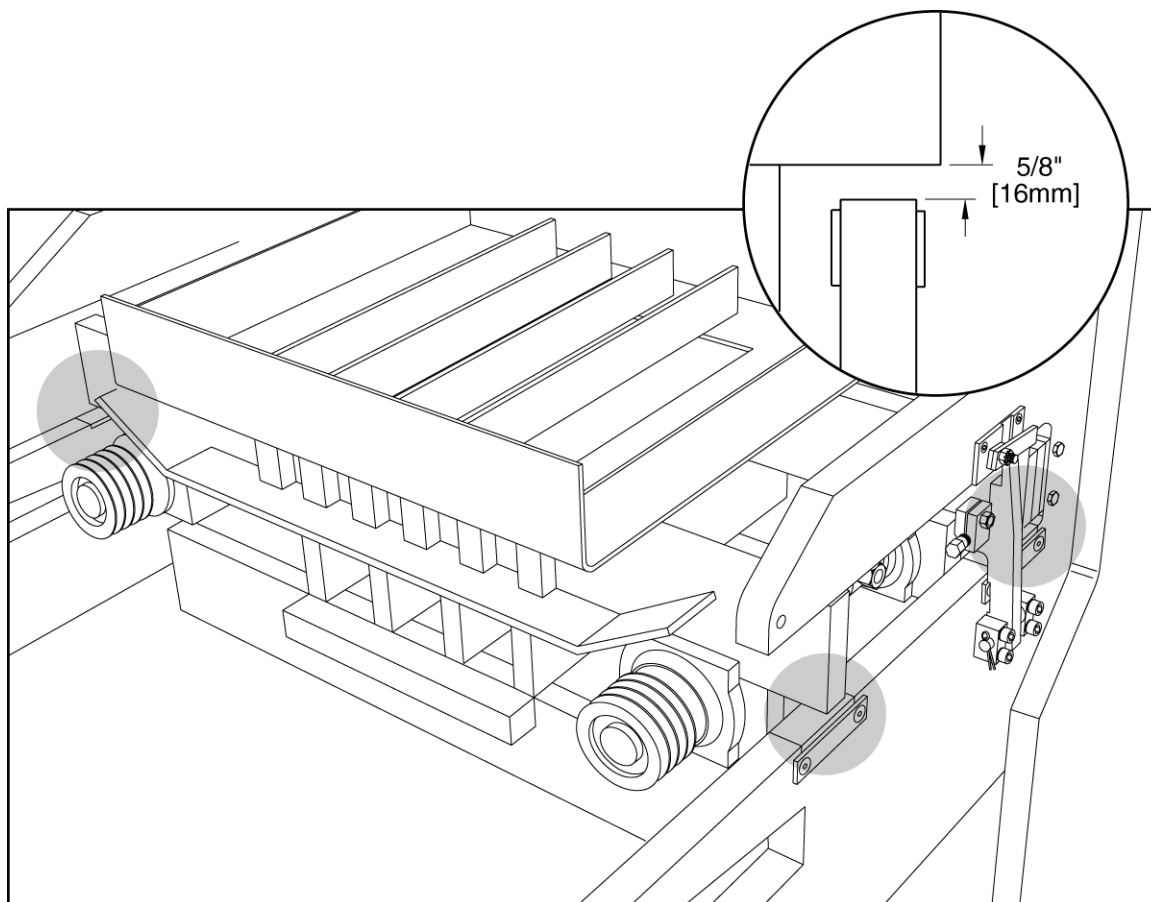

Figure 5.17 SIDE TO SIDE DIMENSION (3 OF THE 4 CHECK POINTS SHOWN)
- 5.5.3 Check level of mold from side to side and from front to back until bottoms of mold side bars are approximately 5/8" [16mm] above mold throat plates at all four check points (see figure 5.17).
- 5.5.7 Check level of mold from side to side and from front to back until bottoms of mold side bars are 5/8" [16mm] above mold throat plates at all four check points (see figure 5.17).